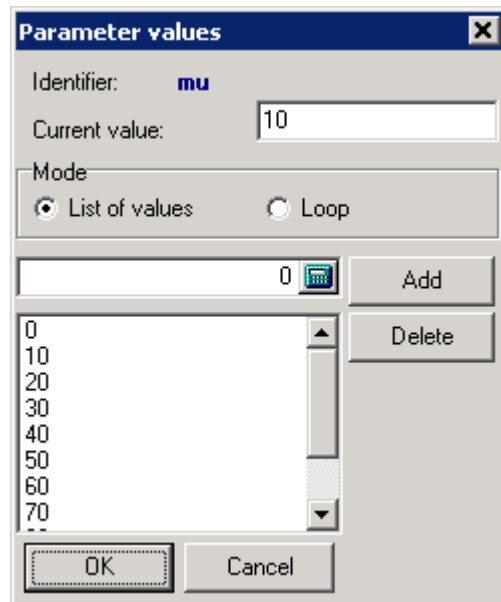

Figure 2.5. Parameter values
2. **Parameter values** window appears. Add values {**0, 10, 20, 30, ... , 100**}, 11 values total, see Fig. 2.5.